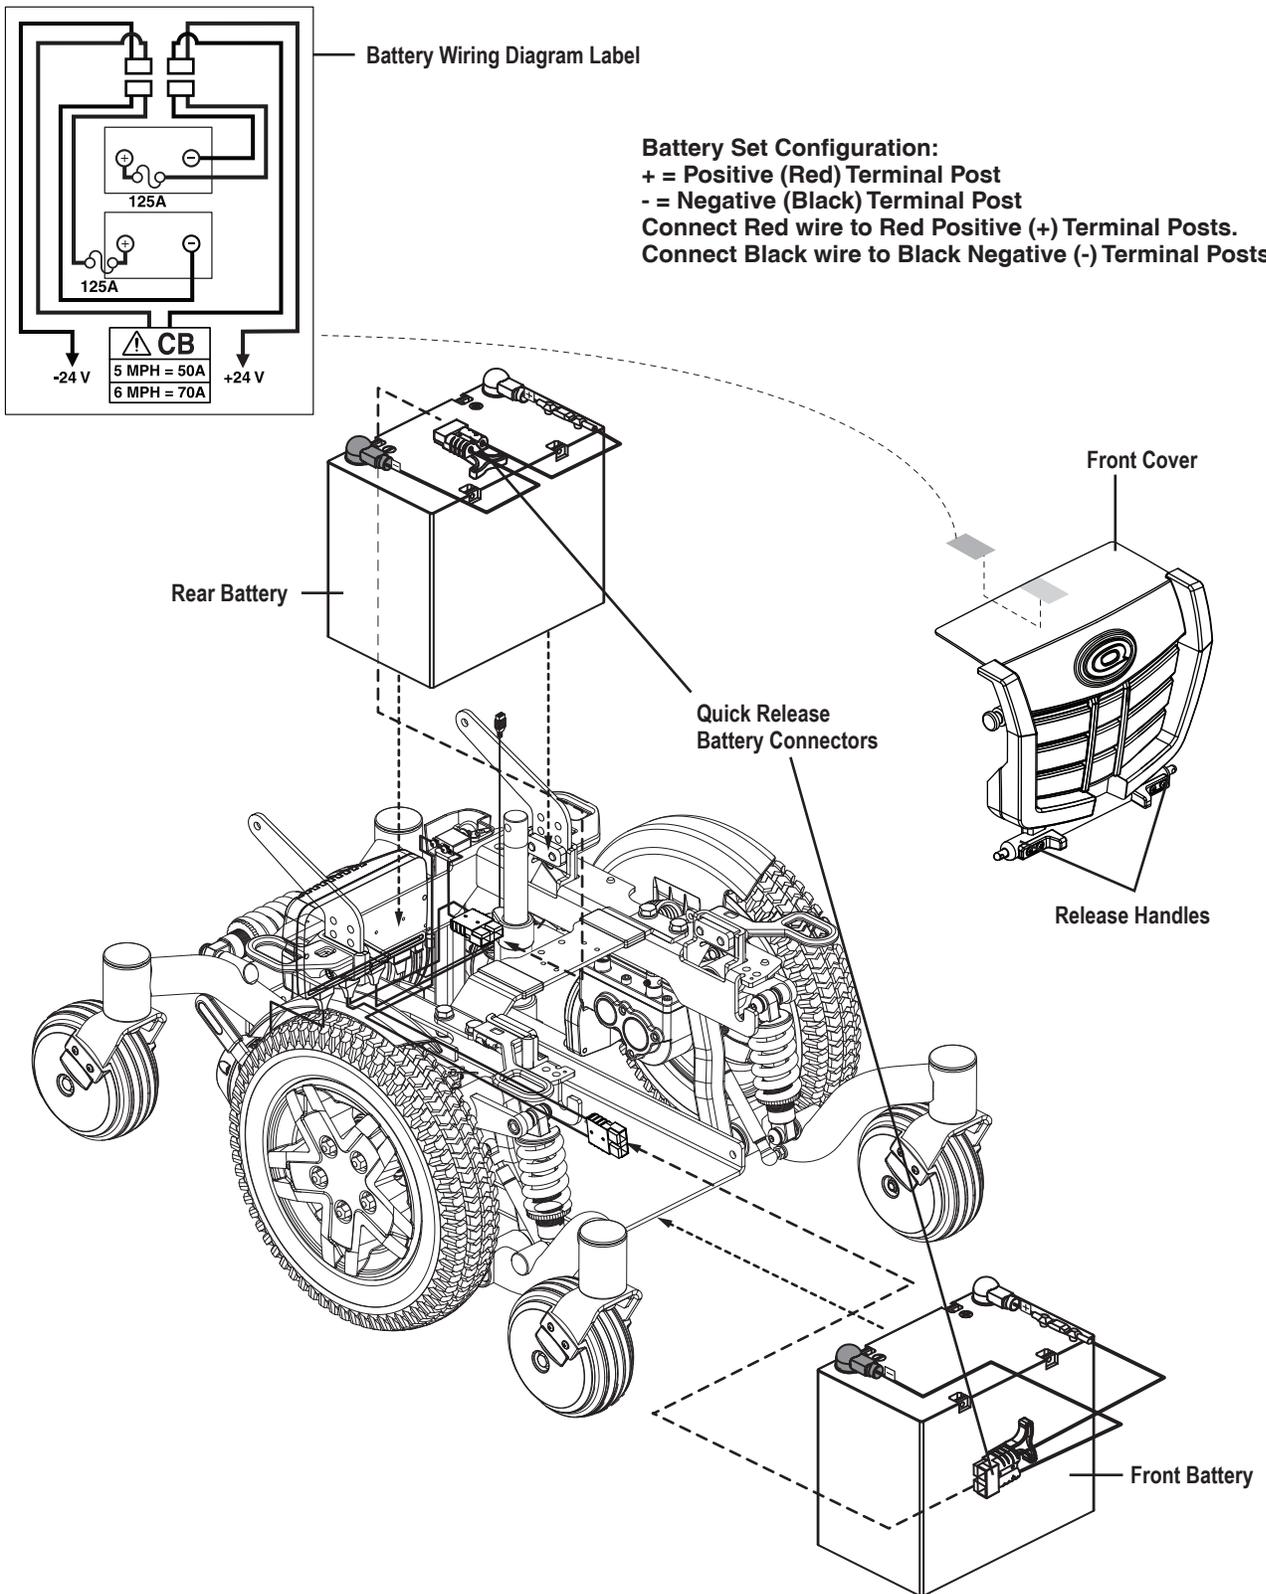

Figure 22. Battery Installation
6. Remove the front cover by squeezing the release handles (**see figure 22**) and lifting the front cover up and away from the power base.
13. Connect the battery harness to the new front battery according to the battery wiring diagram. **See figure 22.**
14. Connect the battery harness to the new rear battery according to the battery wiring diagram. **See figure 22.**